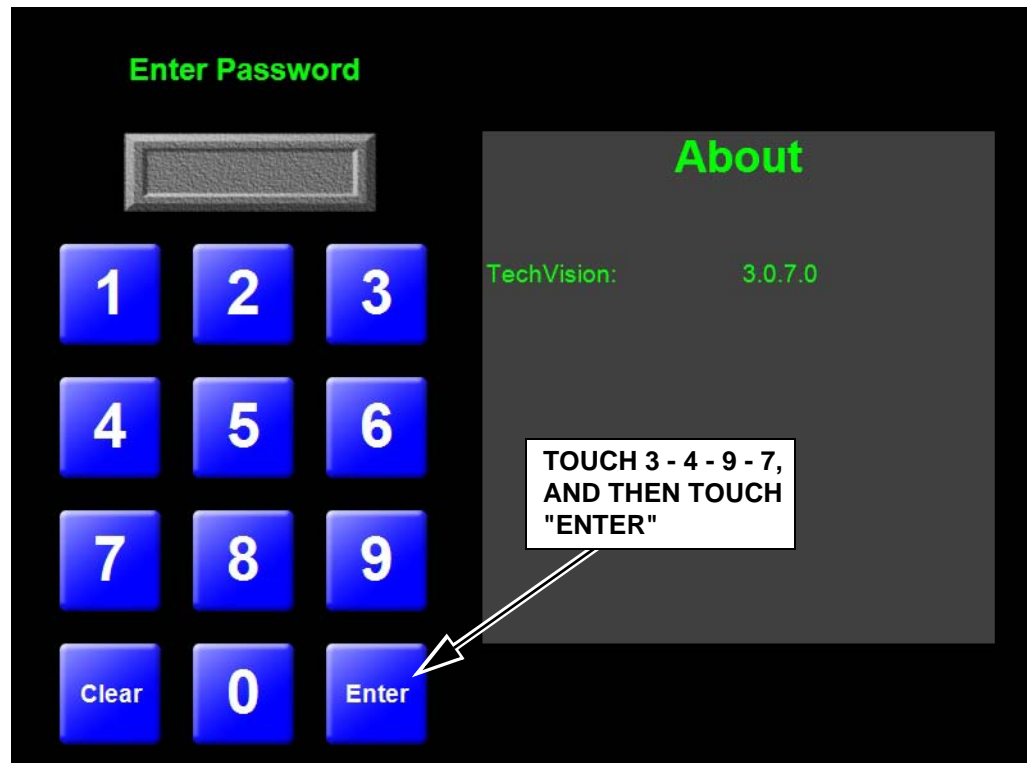

Figure 4-1. Password Screen
2. Once the Operator Service Mode has been selected, the Password Screen will appear (see Figure 4-1).